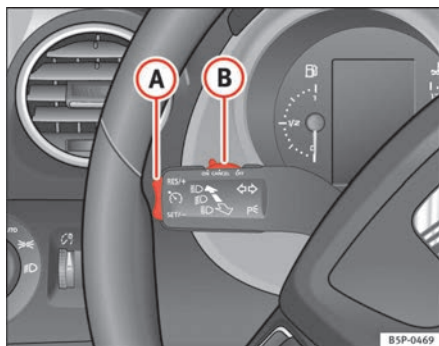

Fig. 149 Indicator and main beam headlight lever: switch and rocker switch for the cruise control
- Press the upper part **RES/+** of the rocker switch ⇒ fig. 149 (A) to increase the speed. The vehicle will continue to accelerate as long as you keep the rocker switch pressed. When you release the switch, the new speed is stored.
Control of the set speed is switched off if you reduce speed by depressing the brake pedal. You can reactivate the control by pressing once on the upper part of the rocker switch **RES/+** ⇒ fig. 149 (A).